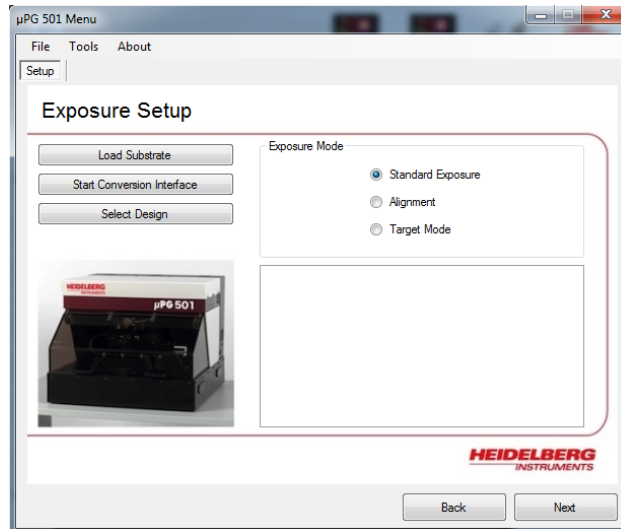

Figure 14: Press “Load Substrate” button.
1. The first step is to click on the ‘load substrate’ button in the main tool window (Figure 14). Click OK. The write head is raised and the stage moves to the loading position at the front of the machine.